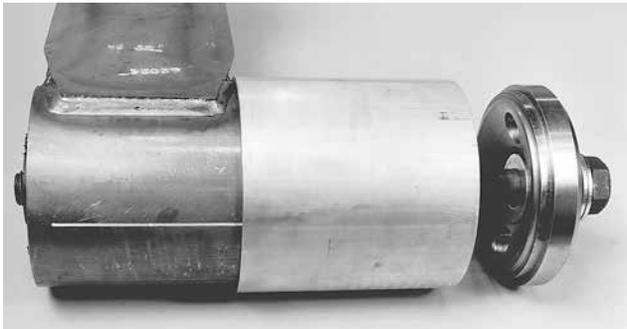

Figure 19: Mounting tool on bushing tube
7. **Insert** the hex head bolt of the tool through the bushing until the transition tube rests squarely on the bushing tube (Figure 19).